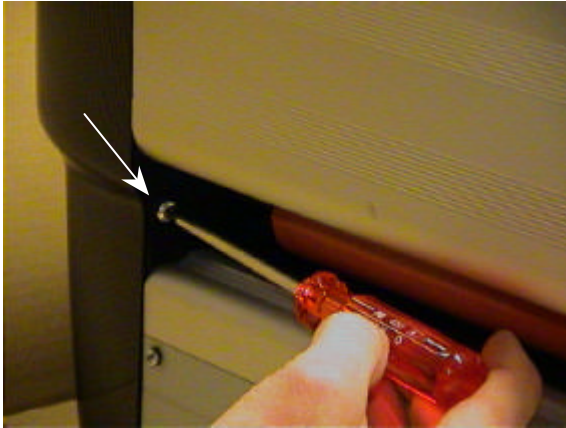

fig. 11
2. Remove the self-tapping screw, situated at the rear side of the machine, using the TX25 driver, as shown in figure 11.